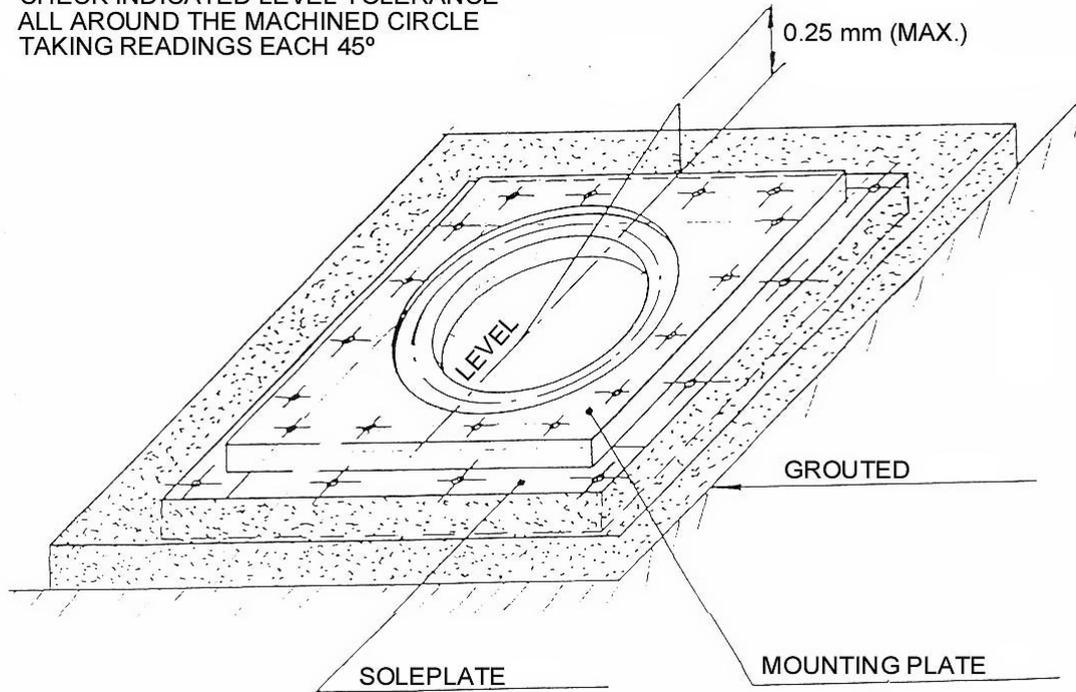

Figure 2
- 3) Install baseplate (30) supporting it over the levelling blocks. Level the baseplate by means of level bolts or metallic packing pieces.
- 4) Having installed the baseplate (30) into position on foundation, use a machinist's level to ascertain that the mounting surface of the soleplate is properly levelled (0,25 mm/meter off-level is required. See fig. 2).